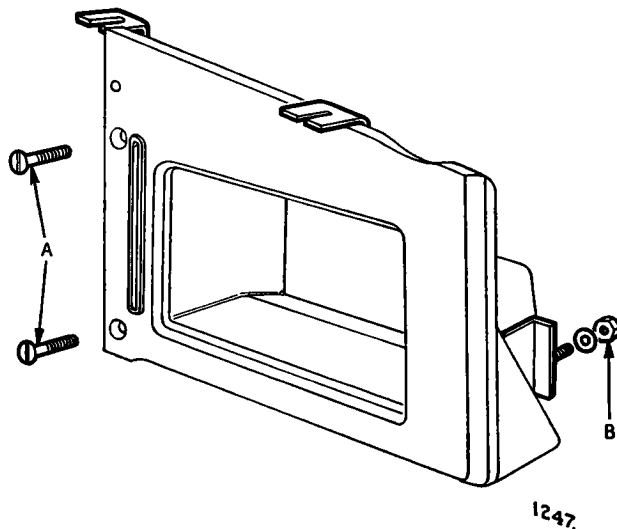

Fig. 46. Right-hand glovebox removal.
Remove the screws (A Fig. 46) securing the glovebox to the dash and the nut (B) and washer from the bracket at the rear of the glovebox.